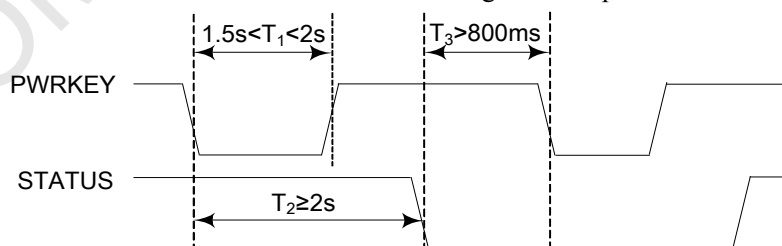

Figure 14: Timing of restart Heracles
*Note: The figure 14 is based on that the powerkey pin is pulled down from 1.5s to 2s. The status should keep low more than 800ms before next restart.*